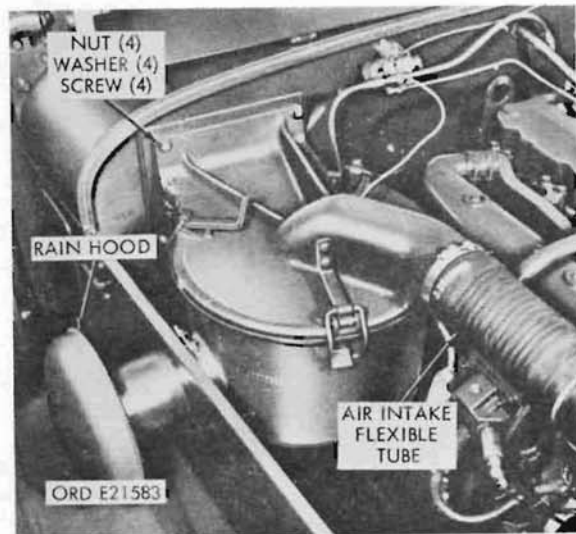

Figure 120. Air cleaner.
- (1) Remove rain shield hood. Refer to TM 9-2320-209-10.
- (2) Loosen the screw on the clamp securing the air intake flexible tube to the air cleaner (fig. 120).
- (3) Remove the four nuts, washers, and screws securing the air cleaner to the firewall.